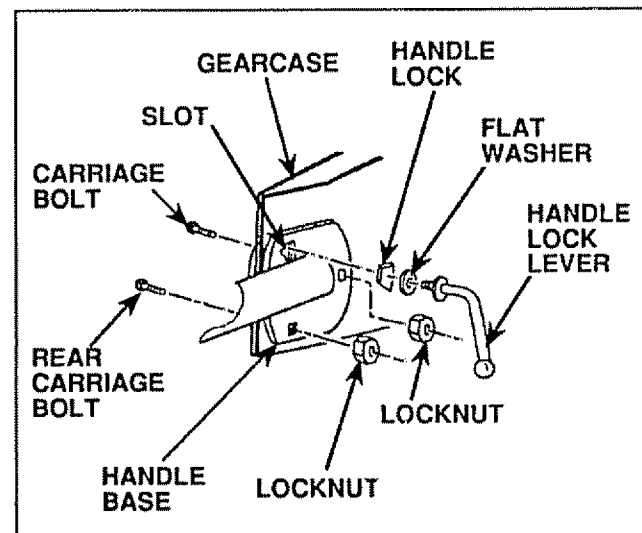

FIGURE 5
- Rotate Handle Assembly down to install two Carriage Bolts and Lock Nuts. Insert rear Carriage Bolt (Fig. 5) first, with head of Bolt on L.H. side of Tiller. Lower the Handle Assembly. Tighten Bolts so Handle moves with some resistance.
- Insert second Handle Lock (with teeth INWARD) in the slot of the Handle Base (Fig. 5).